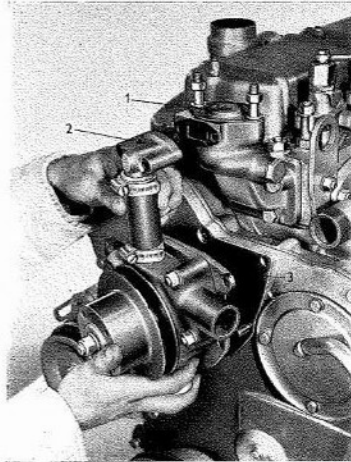

Fig. Q.1.
4. Undo the one setscrew, and three nuts, securing the water pump to the timing case cover, and remove the pump complete with back plate and by-pass adaptor. See Fig. Q.1.